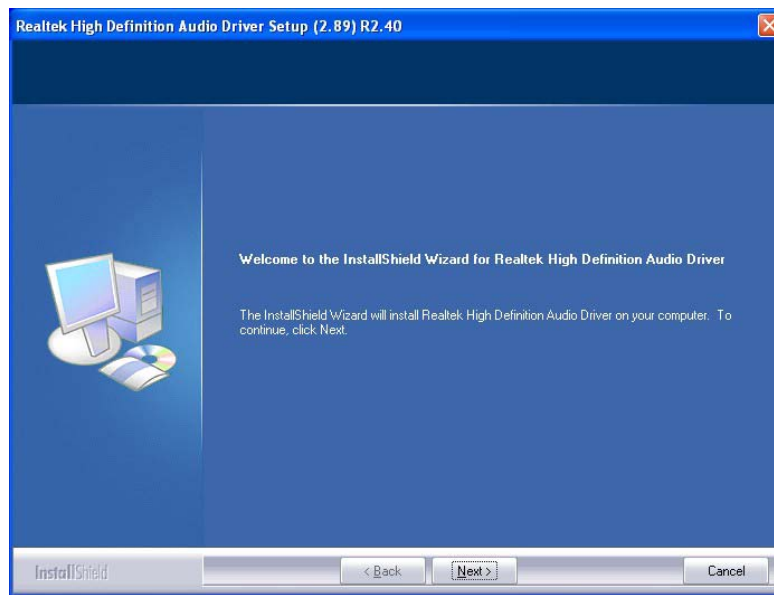

Figure 6-21: Audio Driver Welcome Screen
- Step 4: The **Audio Driver Welcome Screen** in **Figure 6-21** appears.